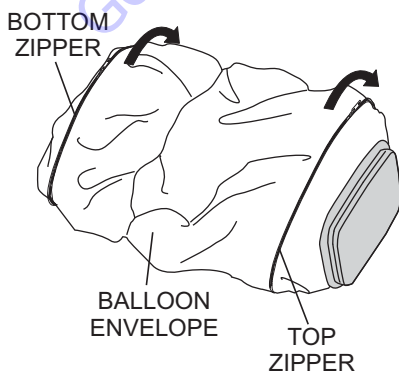

Figure 38. Unzipping the Balloon Envelope
1. Unzip the zipper (Figure 38) at the top and bottom of the balloon envelope (cover).